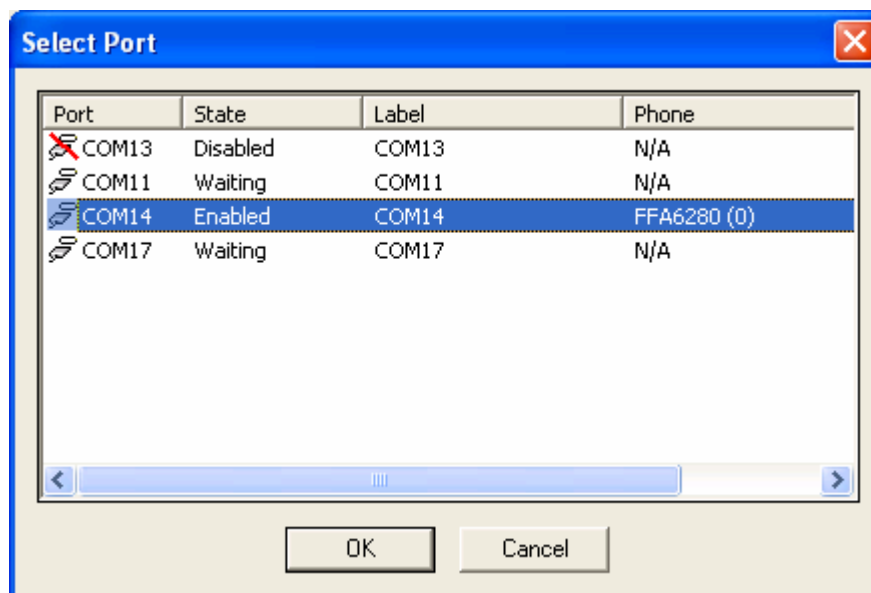

Figure 11-5 COM port selection
9. Select the COM port where the phone is connected, then click OK (Figure 11-5).